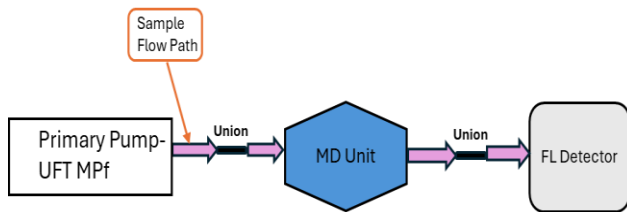

Figure 1. Proteometer-UFT installation
The HPLC configuration for Proteometer UFT is shown in Figure 1. It is important to keep the dead volume of the system at a minimum by using the zero dead volume connector provided and using minimal length of connection tubing. By minimizing the flow-path, it is ensured that the sample peak is captured within a run-time of 1.5 minutes.
1. Install Mobile Phase UFT-MPf on the HPLC system. Install the MD Unit (Section B.4) on the HPLC system in line with the fluorescence detector as shown in Figure 1.